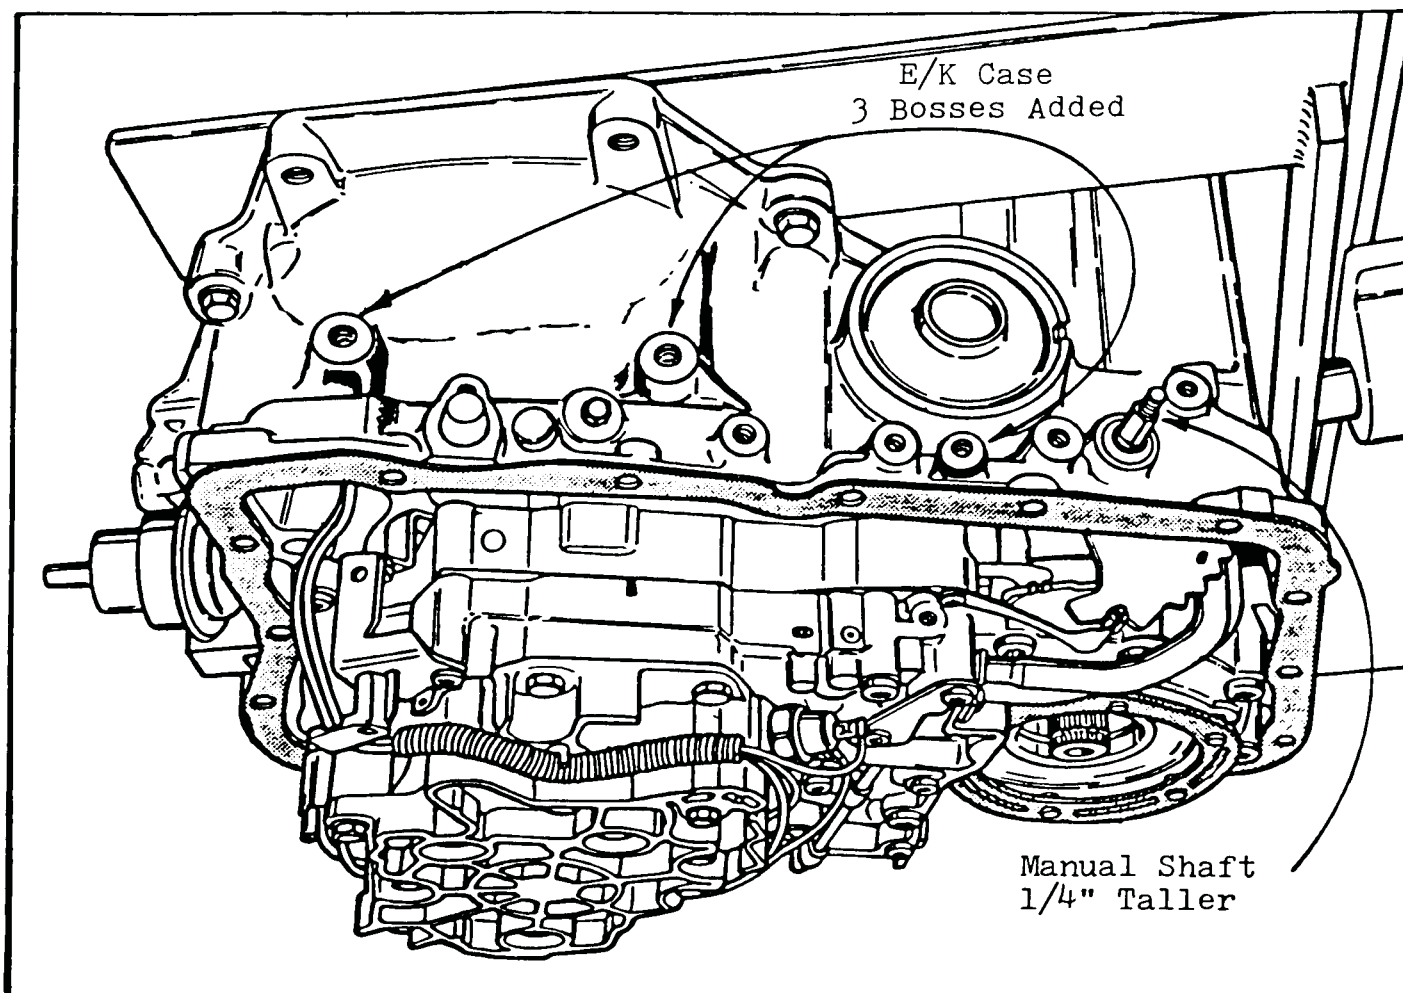

Figure 56
**Change:** Transaxle Case Assembly - 3 bosses added to transaxle case assembly (See Figures 56 and 57).
- 1) Transaxle Case - 3 bosses added to the case assembly (See Figures 56 and 57). The larger bosses on top of the case are for mounting purposes in the "E" and "K" bodies only. The smaller boss is for fuel line bracket in the "E" and "K" bodies only (See Figure 56). We can immediately see why it is called the E/K case.